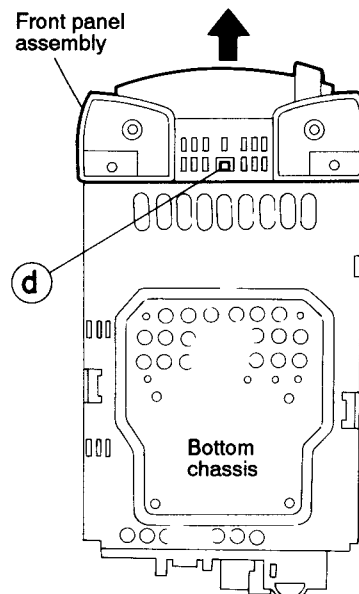

Fig. 5-12
■ Removing the front panel assembly (See Fig. 5-12)
5. From the bottom of the body, disengage the engagement ④ fixing the front panel assembly in Fig. 5-12 while pressing it with a minus screw driver, etc.